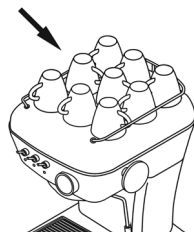

Figure 6
3. Place the cups on the cup warmer **9**. Espresso is best at optimal temperature (40°C/105°F) (see figure 6).